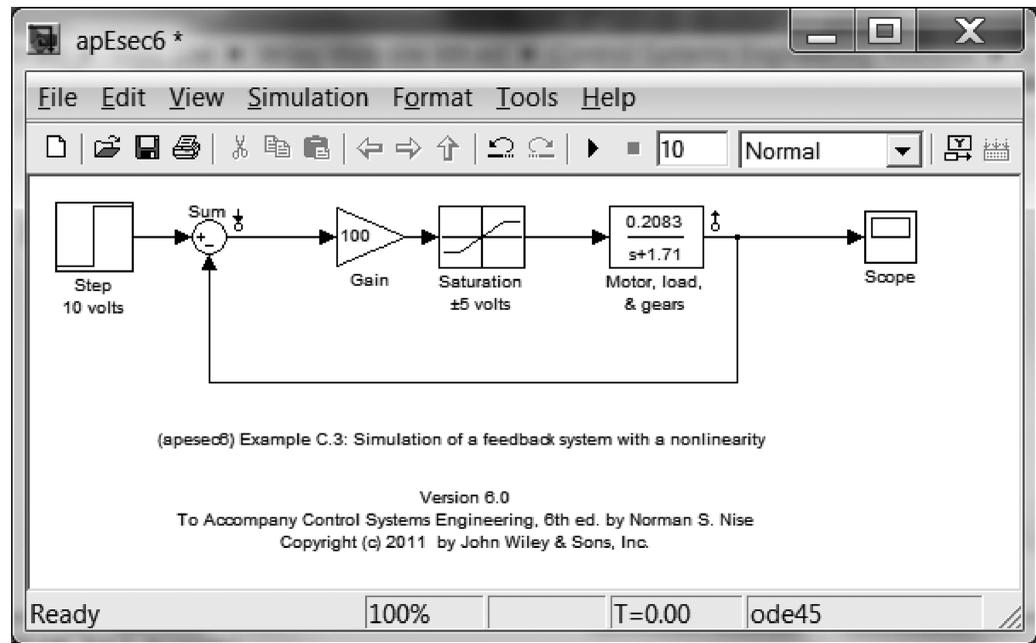

FIGURE E.7 Simulink model window showing **Input Point** and **Output Point**
1. **Access a Simulink Model.** Start with your Simulink model window shown in Figure E.7
2. **Define the input and output of your analysis model** Click on the point to apply the input. Right click on the selected point and choose **Linearization Points** then **Input Point** on the drop-down menu. Next, click on the point to view the output. Right click on the selected point and choose **Linearization Points** then **Output Point** on the drop-down menu. The input and output points are shown on the Simulink model of Figure E.7.